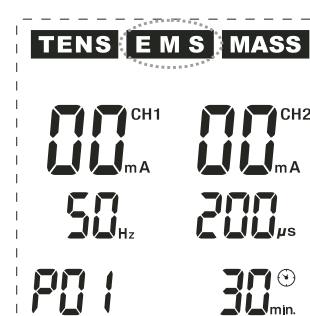

Fig. 6
Press the key (ⓔ) (E) in order to select the **EMS mode**. The **EMS mode** is activated and information, as shown in **Fig. 6**, appears on the display: The device is now run in programme 1 (**P01**) of the **EMS** mode (**EMS** flashes at the top in the middle of the display). In the **EMS mode**, there are a total of 20 programmes (11 pre-programmed programmes **P01** - **P11** as well as 9 individual programmes **U1** - **U9** whose parameters can be set by the users themselves (see programme tables, page 23). In the **EMS mode**, press the key (Ⓟ) (P/II) repeatedly in order to first call the programmes **P01** - **P11** one after the other and then the programmes **U1** - **U9**. After programme **U9**, the programme order starts from the beginning with **P01**, **P02** etc.